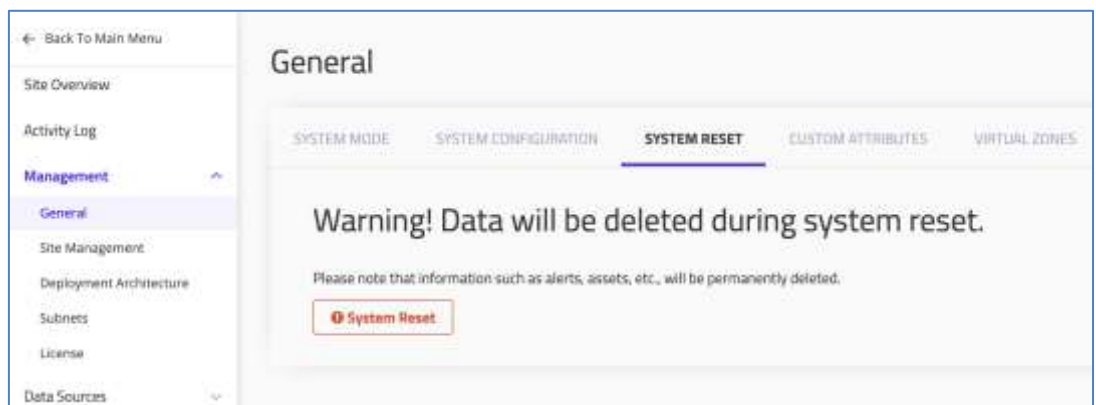

Figure 77 Remove the Learned Assets with System Reset
- ◆ Go to **Configuration**  > **Management > General** and click the **System Reset** tab (see Figure 77).